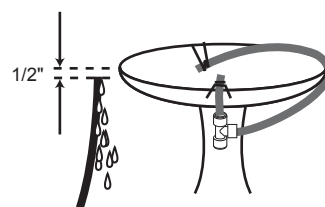

Figure 10
14) Repeat Steps 12 & 13. The Canister height is properly set if the water just begins to come out the end of the Fill Line when the end of the tube is approximately 1/2 inch below the rim of the birdbath (see Figure 10).